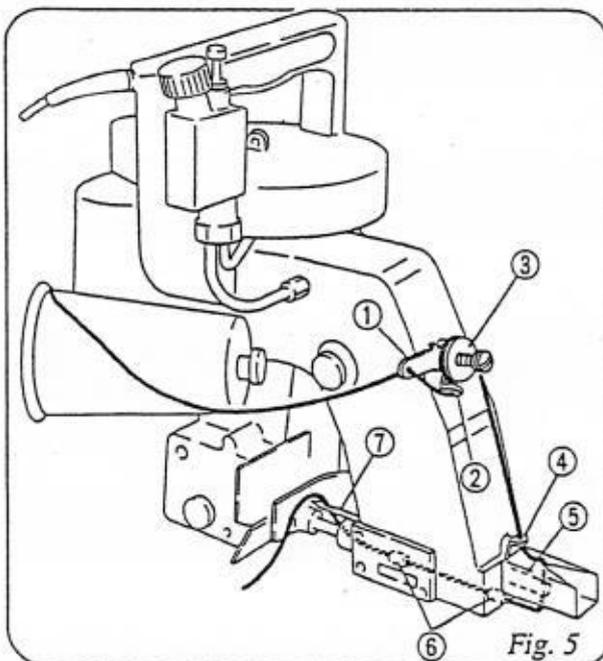

Fig. 5
3. Threading (Fig.5)
The machine is delivered being threaded to show you proper threading of the machine, which is shown in Fig.5, for identification. Follow the guide numbers 1 to 7 of Fig.5.